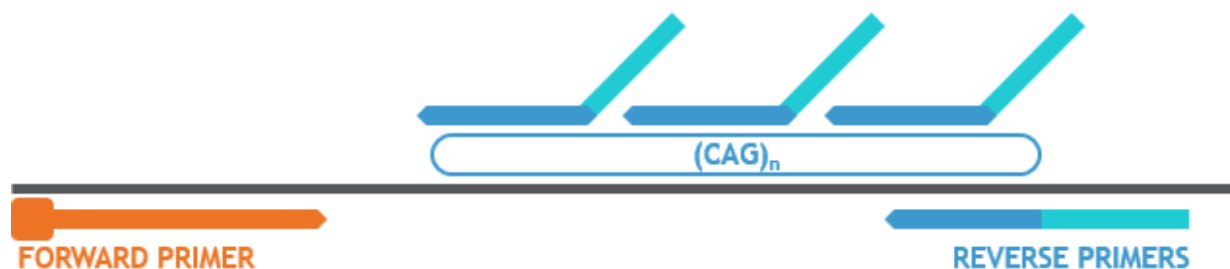

Figure 1. *HTT* 2-primer PCR assay configuration
The kit includes reagents to perform a two-primer, anchor-primed PCR of the *HTT* CAG repeat region followed by detection by CE (**Figure 1**). The resulting electropherogram includes both full-length PCR products and CAG repeat-primed (RP) amplicons, creating a repeat pattern. These RP peaks are separated by ~3 bp, or 1 repeat unit, as expected. The true alleles are distinguished as the highest fragment peaks; stutter peaks extending from the smaller allele and terminating with the larger allele represent products from the reverse primer hybridizing within the CAG_(n) region. When an allele is too large to be resolved by CE, a stutter peak of decreasing amplitude extends to the end of the electropherogram, often accompanied with a pile-up peak representing fragments too large to separate in the linear range of CE.